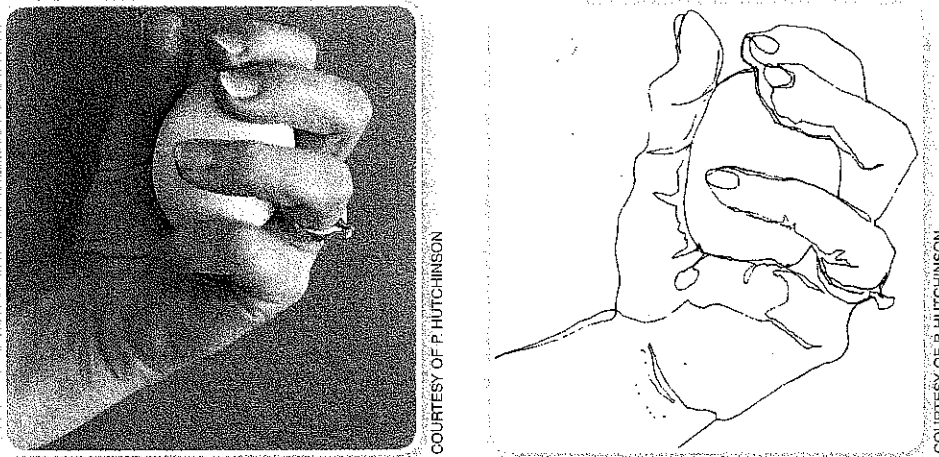

Figure 5-15: Hand and egg (photo) and continuous line drawing.
- Step 1.** If you are right-handed, place an 8 1/2 by 11 inch sheet of paper on a table to your right. Tape it in place so you don't have to worry about it moving around. Sit sideways at the table so that your right hand can draw on the paper, but face ahead or slightly to the left so that you are not easily able to see your paper. Hold a small object (a bottle, egg, spoon) in your left hand (see Figure 5-15). This is what you will be looking at as you draw. If you are left handed, you now get more brain exercise. Reverse the directions in Step 1 so that the paper is on your left and the object in your right hand.